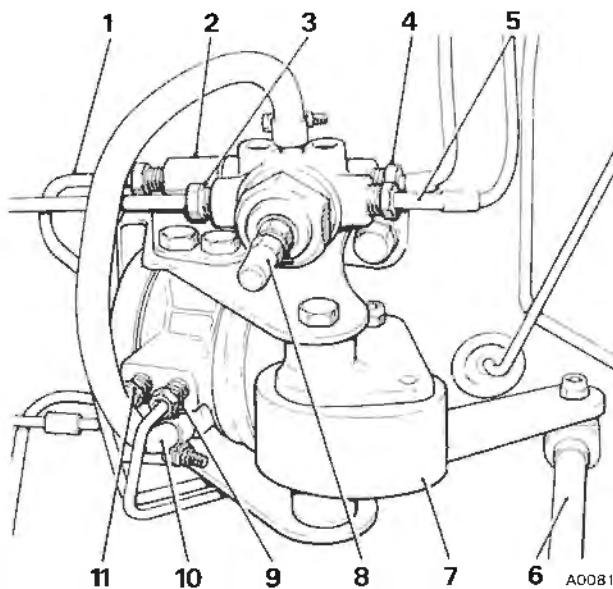

Fig. 3
- 17 Re-align and fit the minimum pressure valve to strut feed pipe into the upper port of the minimum pressure valve (see fig. 3, item 4).
- 18 Re-align and fit the strut drain to minimum pressure valve return pipe into the lower port of the minimum pressure valve (see fig. 3, item 5).
- 19 Fit the strut drain to reservoir return pipe, to the lower port of the minimum pressure valve (see fig. 3, item 3).
- 10 Remove the domed nut (see fig. 3, item 8) from the underside of the minimum pressure valve. Slacken the lock-nut on the exposed Allen screw (see fig. 4) and either turn the Allen screw clockwise to increase the setting pressure or anti-clockwise to decrease the pressure.